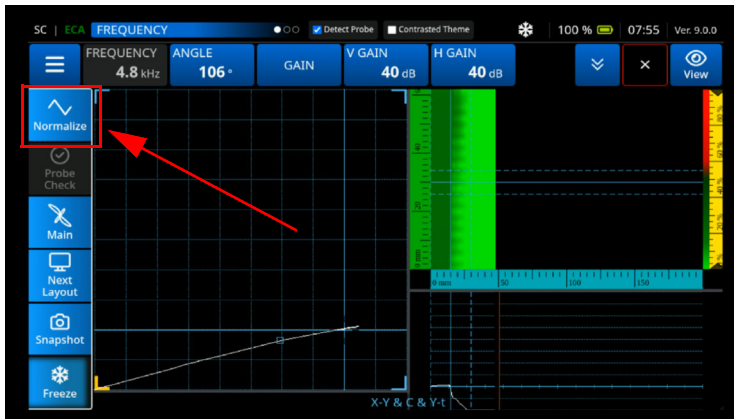

Figure 4-63 Normalize
8. Press **Fn**  to **Normalize** (See Figure 4-63 on page 166).